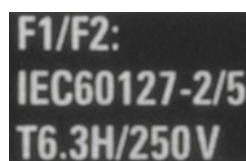

Figure 16-1: Fuse label
- ▶ To find out fuse characteristics, check the label to the right of the power switch on the rear panel. See Figure 16-1.